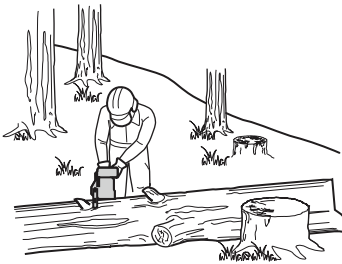

Fig. 33
4. When bucking on a slope always stand on the uphill side of the log (Fig. 33). When “cutting through”, to maintain complete control release the cutting pressure near the end of the cut without relaxing your grip on the product handles. Don't let the chain contact the ground. After completing the cut, wait for the saw chain to stop before you move the product. Always stop the motor before moving from tree to tree.